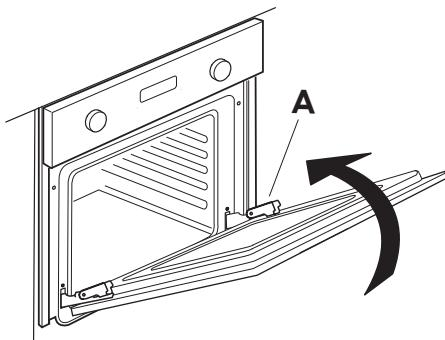

Fig. 2
- Close the door as far as it will go (A), lift it up (B) and turn it (C) until it is released (D) (Fig. 2, 3, 4).